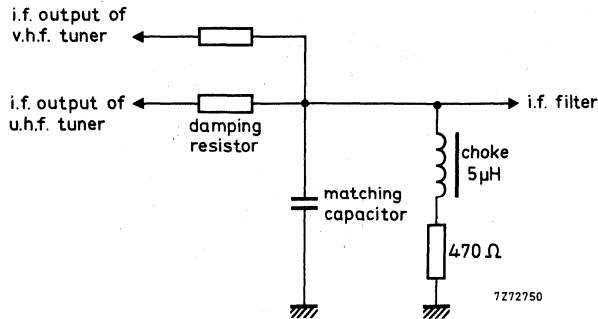

Fig. 8.
The tuner needs a d.c. path from the i.f. output terminal (10) to earth, preferably via a choke of approx. 5 μH outside the tuner (Fig. 8). Where the tuner is used in combination with a v.h.f. tuner, this choke can be common for both tuners; a resistor in series with the choke can make ineffective the i.f. output circuit of the switched-off tuner. For damping the i.f. output circuit and matching the i.f. output impedance of the tuner to the i.f. amplifier, a series resistor and a parallel capacitor as shown in Fig. 8 should be used.